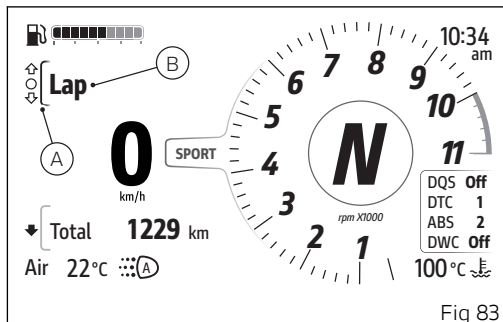

Fig 83
- Select the Interactive Menu (A, Fig 83) by pressing and holding button (1) pressed for a long time.
- Use buttons (1) and (2) to select item "Lap" (B, Fig 83) and press the ENTER button (3).